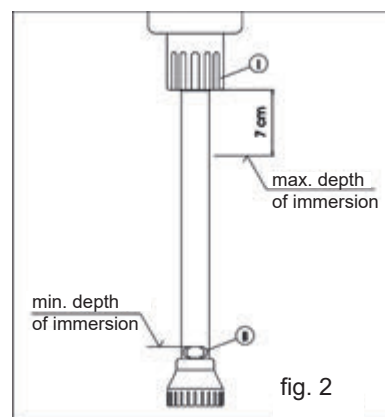

fig. 2
- When using the machine, the vertical action must be done only using the handles provided (fig. 2 pag. 5 pos. IV)